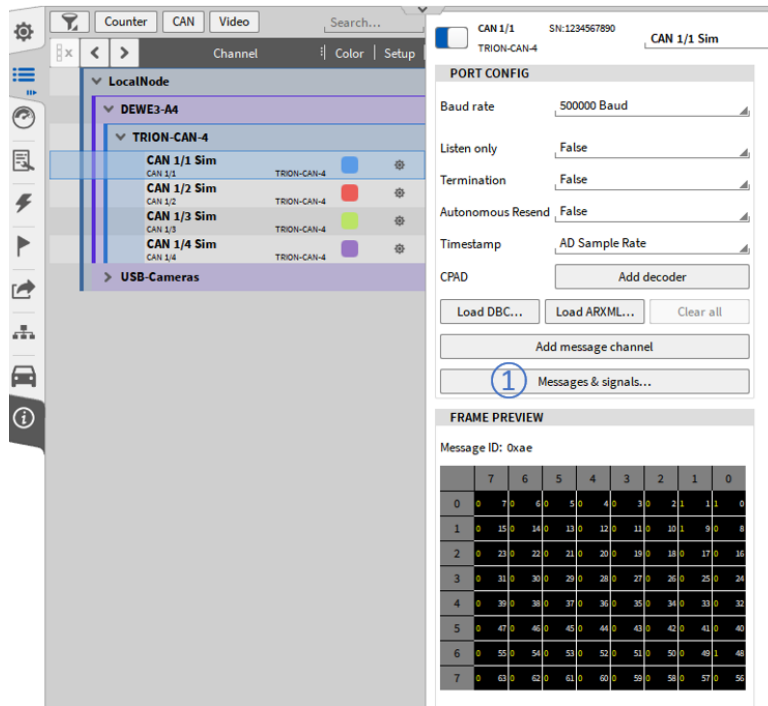

Fig. 7.208: CAN port configuration
Instead of using .dbc or .arxml files for data decoding it is also possible to add CAN messages and signals manually. OXYGEN provides a CAN editor for this purpose which can be opened by pressing the **Messages & signal** button the CAN port configuration (see ① in Fig. 7.208):